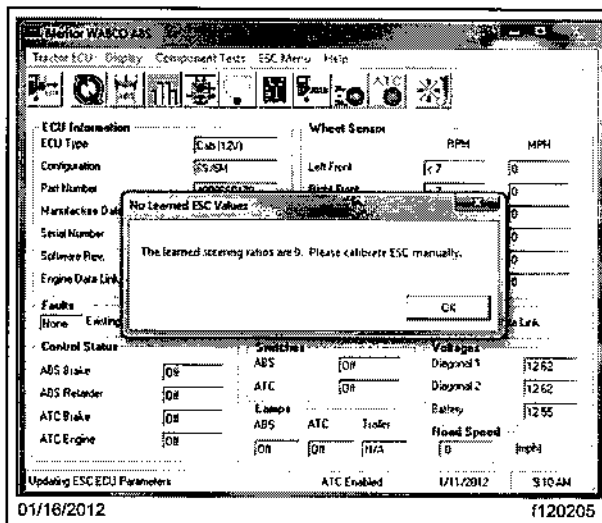

Fig. 8, No Learned ESC Values
- 7.2 If "The learned steering ratios are 0. Please calibrate ESC manually" is returned, an additional procedure for steering ratio learning will be performed later in these Work Instructions. No additional steps are needed at this point. Click OK and continue. See Fig. 8.